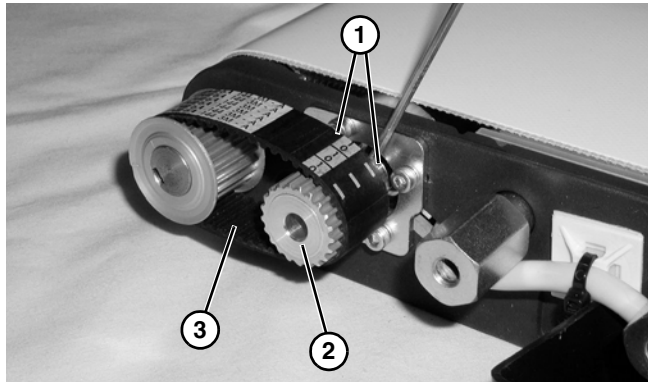

Figure 75
6. Loosen two set screws (**Figure 75, item 1**) on drive pulley (**Figure 75, item 2**). Slide drive pulley outward off of gearmotor shaft and remove timing belt (**Figure 75, item 3**).